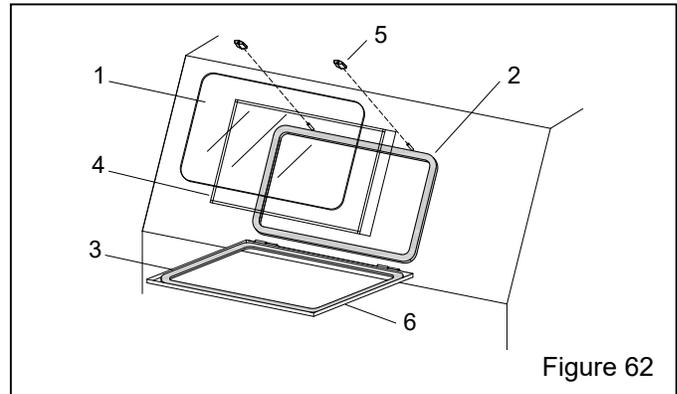

Figure 62
**10.5 View-Window Assembly – Figure 62**